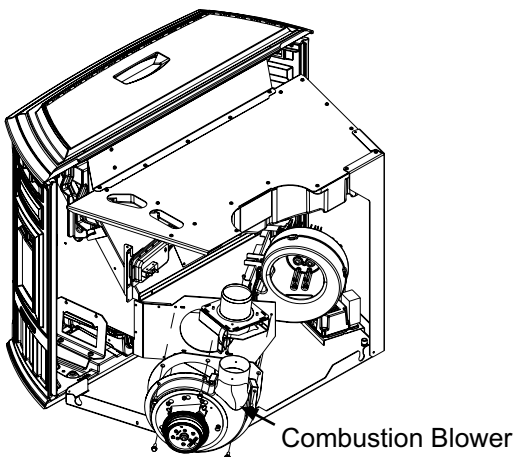

Figure 5
- a. The combustion blower is mounted in the bottom right rear of the appliance. **Figure 5.**